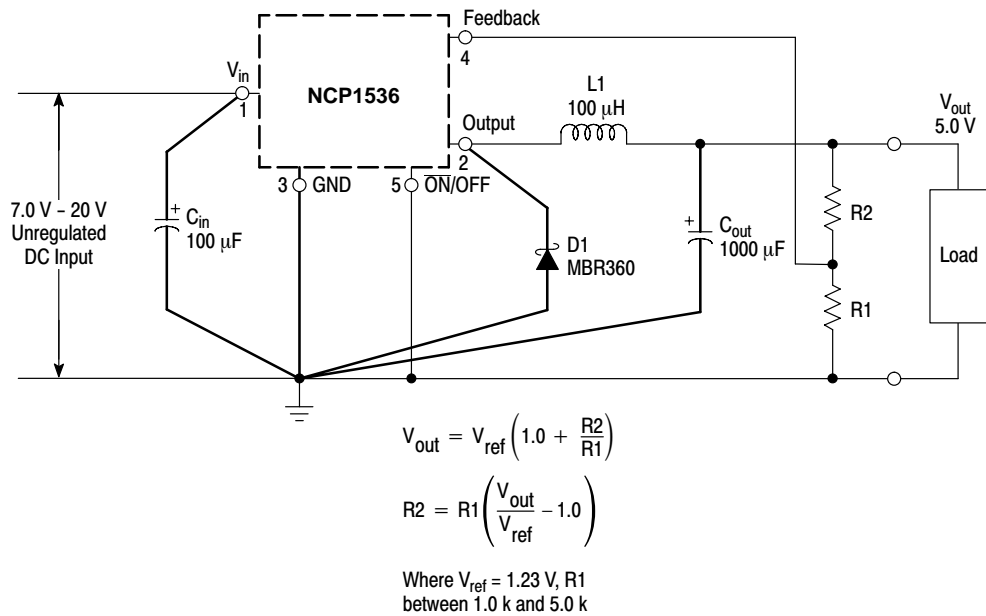

Figure 2. Typical Test Circuit
| ON/OFF Pin Logic Input Level (Test Circuit Figure 2) $V_{out} = 0\text{ V}$ $T_J = 25^\circ\text{C}$ $T_J = -40\text{ to }+125^\circ\text{C}$ $V_{out} = \text{Nominal Output Voltage}$ $T_J = 25^\circ\text{C}$ $T_J = -40\text{ to }+125^\circ\text{C}$ | V_{IH} V_{IL} | 2.2 2.4 – – | 1.4 – 1.2 – | – – 1.0 0.8 | V |
| ON/OFF Pin Input Current (Test Circuit Figure 2) ON/OFF Pin = 5.0 V (“off”), $T_J = 25^\circ\text{C}$ ON/OFF Pin = 0 V (“on”), $T_J = 25^\circ\text{C}$ | I_{IH} I_{IL} | – – | 15 0 | 30 5.0 | mA |
2. External components such as the catch diode, inductor, input and output capacitors can affect switching regulator system performance. When the NCP1536 is used as shown in the Figure 2 test circuit, system performance will be as shown in system parameters section.
As in any switching regulator, the layout of the printed circuit board is very important. Rapidly switching currents associated with wiring inductance, stray capacitance and parasitic inductance of the printed circuit board traces can generate voltage transients which can generate electromagnetic interferences (EMI) and affect the desired operation. As indicated in the Figure 2, to minimize inductance and ground loops, the length of the leads indicated by heavy lines should be kept as short as possible.